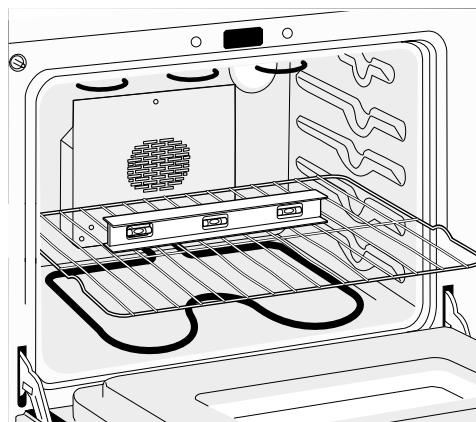

Figure 9
2. Place a level on the rack (see figure 9). Take 2 readings with the level placed diagonally in one direction and then the other. Level the range, if necessary, by adjusting the 4 leg levelers with a wrench (see Figure 11).